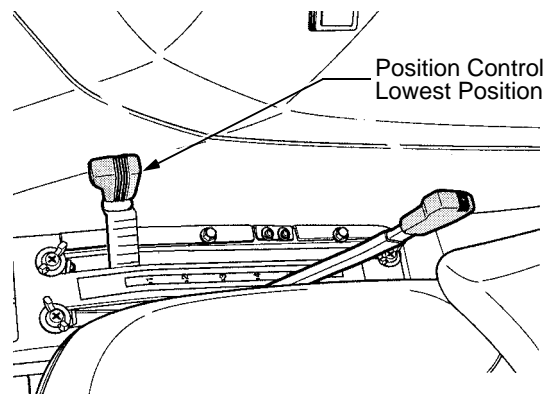

Figure 23
- Place the position control lever in the lowest position. See Figure 23.